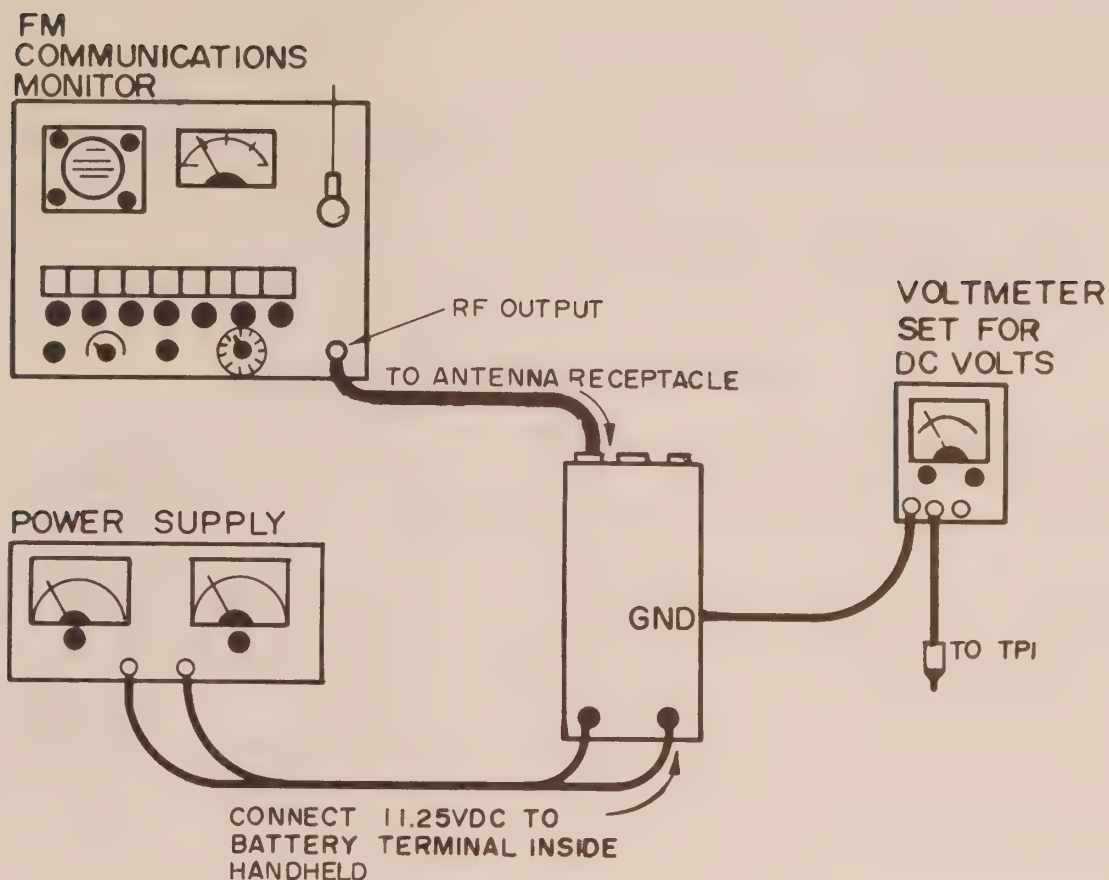

FIGURE 7. 734LC TONE BOARD RX TEST SET-UP
1. Connect test equipment as shown in Figure 7.